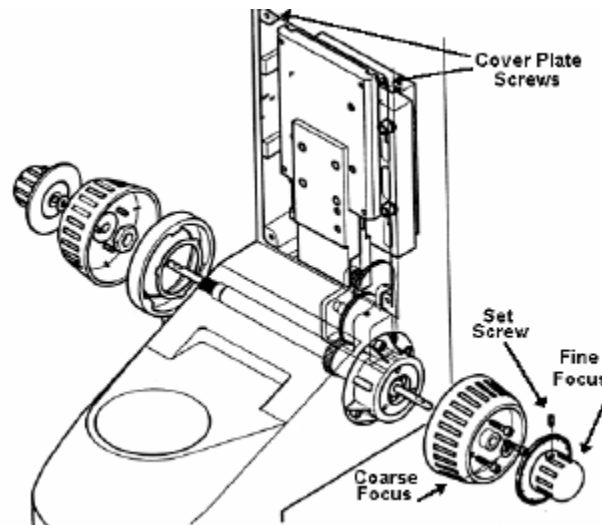

Figure 3
The focus motor assembly is shipped partially assembled. Before installation, loosen the five set screws in the outer housing - separate the focus collar and the focus motor from the housing. (Use Figure 3 for reference)
Install the provided M2.5x8 socket head screws (with washers) into the threaded holes used to attach the coarse focus knob; failure to do so may result in Z axis drift. (See Figures 3 and 4 for reference)
- 4 Remove the upper two Philips head screws which secure the Z- column cover plate. (See Figure 3 for reference)